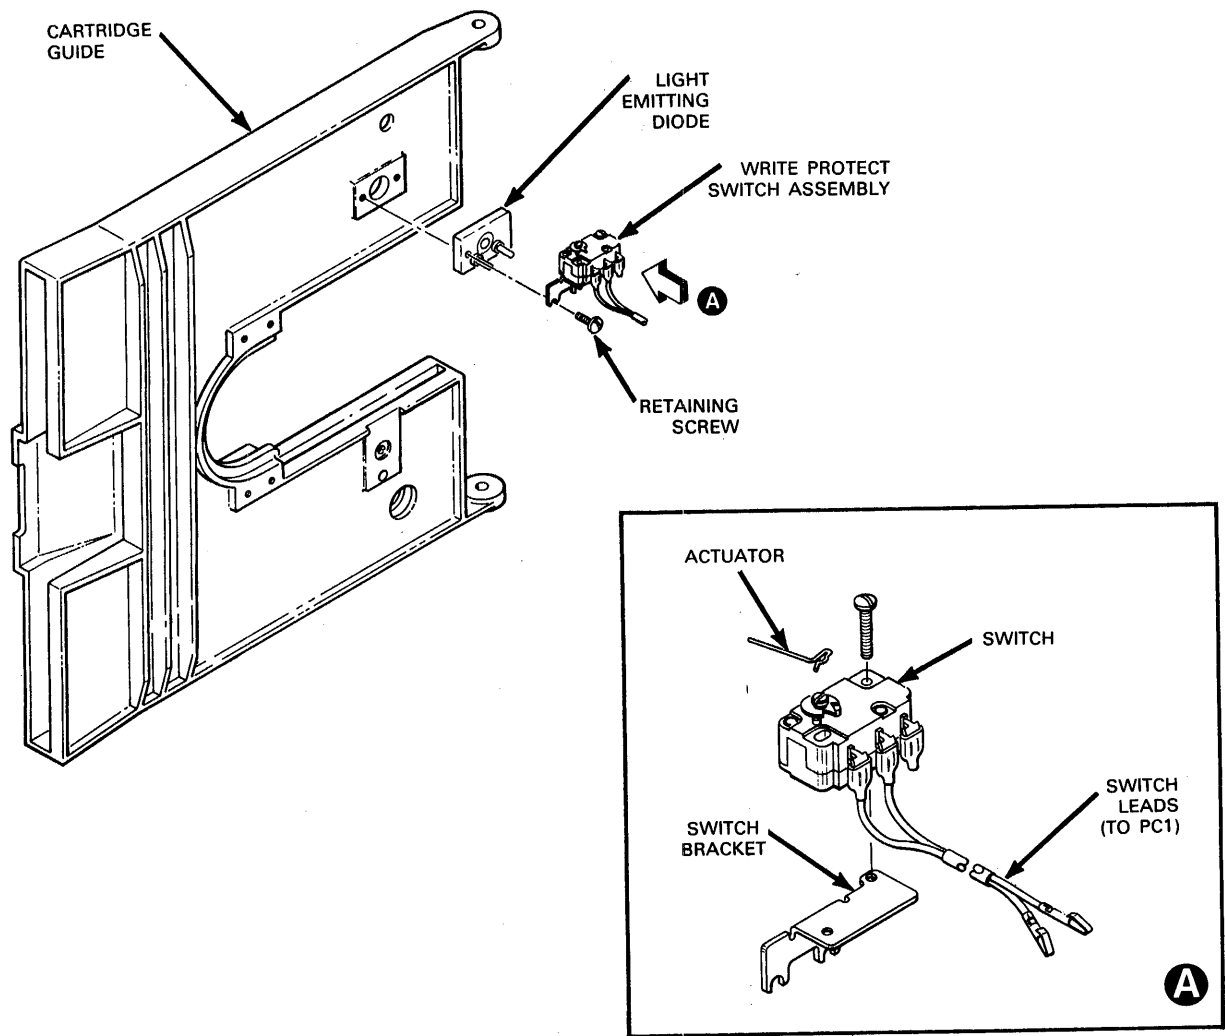

Figure 5-19. Write Protect Switch Removal and Replacement
1. Adjust switch such that the actuator just touches the left side of the cartridge guide hole (Figure 5-19). This may be accomplished by loosening the switch-bracket to cartridge-guide retaining screws and moving the switch. If this movement does not provide sufficient adjustment latitude, bend the wire switch actuator to provide for proper adjustment.